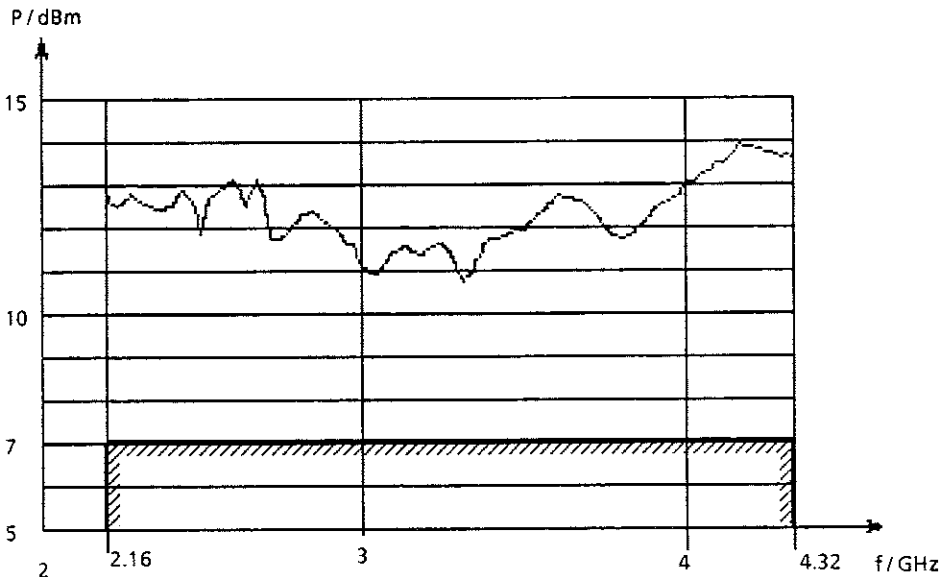

Fig. 5-3 Output power at X164 versus frequency
- Check the available RF power according to Fig. 5-3, the frequency is set on the instrument.